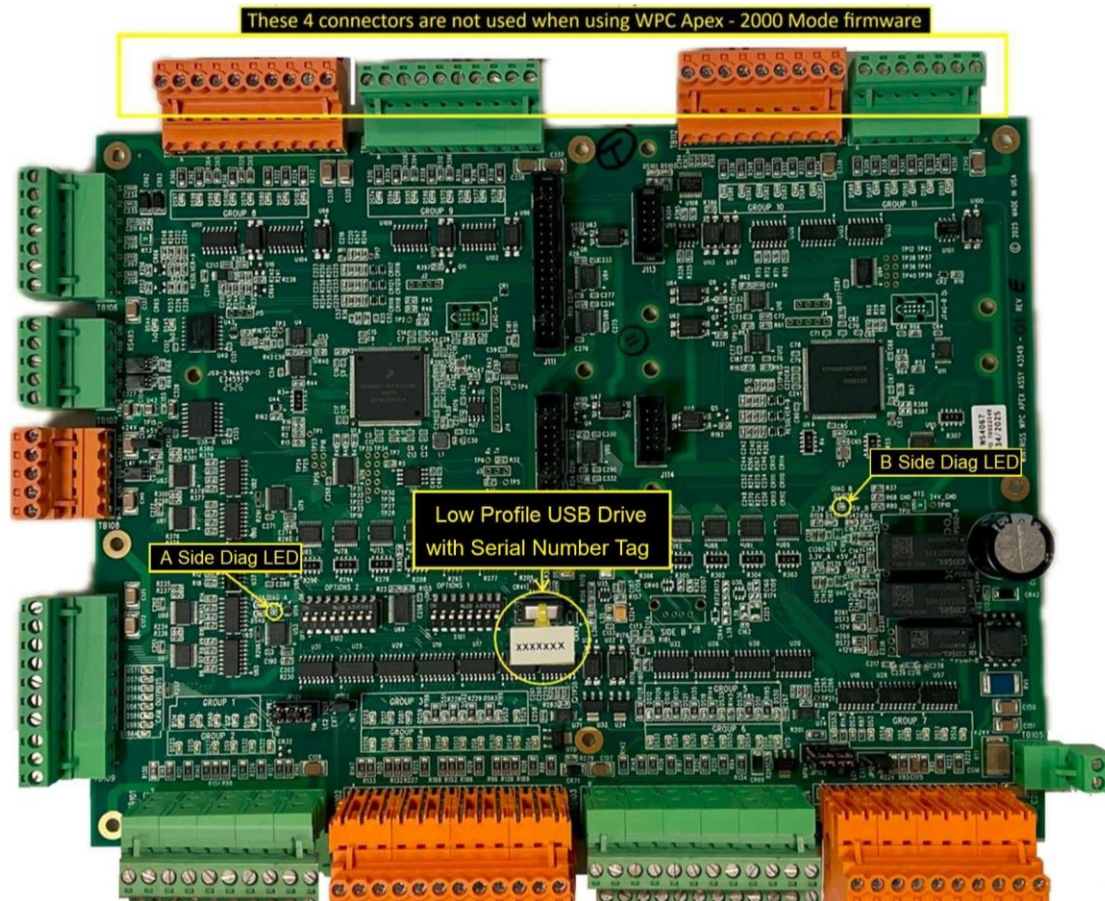

Figure 2-23. WPC APEX Processor Board Showing Serialized USB and Diagnostic LEDs
WPC APEX firmware resides within the program memory space inside each of the two microcontrollers. To perform an update, download and install new firmware using the USB drive on the WPC APEX processor board (refer to Figure 2-23). All WPC APEX boards ship with a low-profile USB drive that contains its currently loaded firmware as *.hex* files, as well as the press parameter values.
Notice in Figure 2-23 that a tag showing the system serial number is tie-wrapped onto the resident USB drive. The firmware can be updated by copying the A & B *.hex* files provided by Wintriss to the USB drive root directory. Follow the steps below to update the firmware.
3. Power down the press control system and unplug/retrieve the USB drive (see Figure 2-23) from the WPC APEX board.